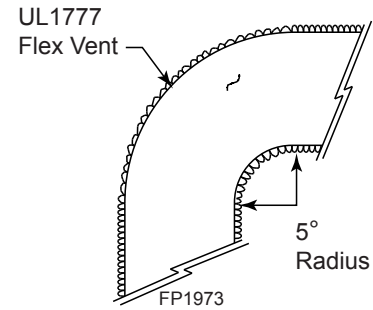

Figure 37 - Minimum Radius for Flex Vent Section
3. Do not allow the flexible vent to bend in radius tighter than 5" (127 mm). *Figure 37*